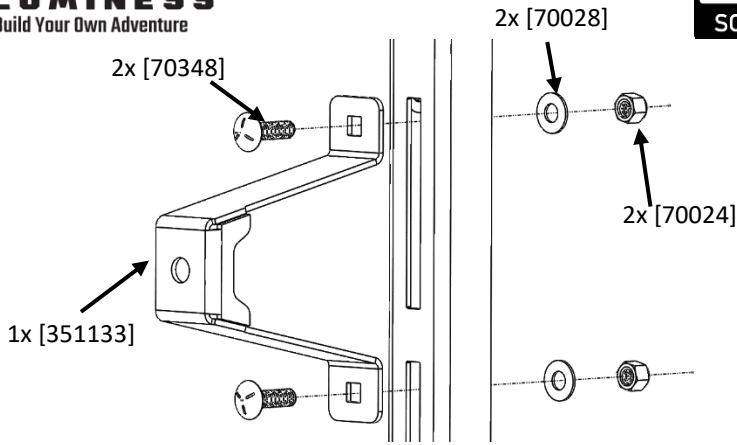

Figure 9: Mounting Tire Bracket
- 25. Loosely fasten the Tire Mount Bracket to the slotted channel, going through the bracket first, using the 3/8" carriage head bolts, washer, and nuts to mount. Reference Figure 9.